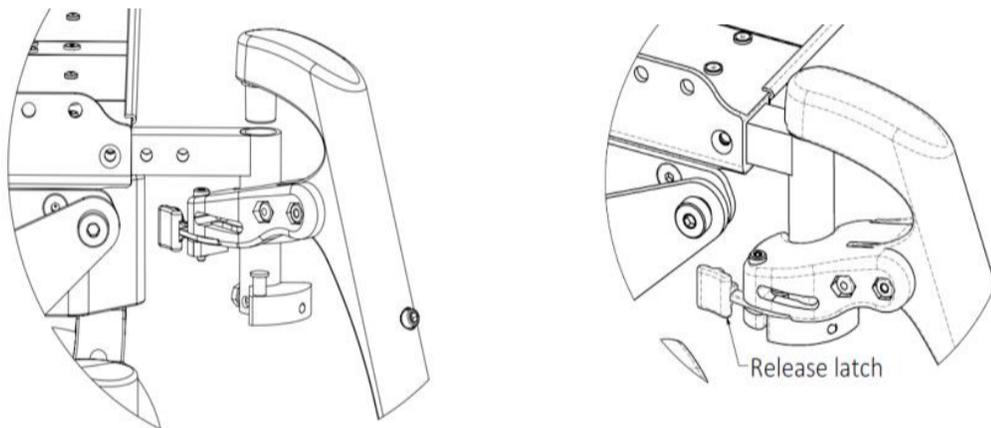

Figure 15.15: Swing-Away Front Rigging Latch Installation and Removal
- Orient the footrest at approximately 45° outboard of the wheelchair as shown in Figure 15.15
- To release the locking mechanism, push the release lever as show in Figure 15.15